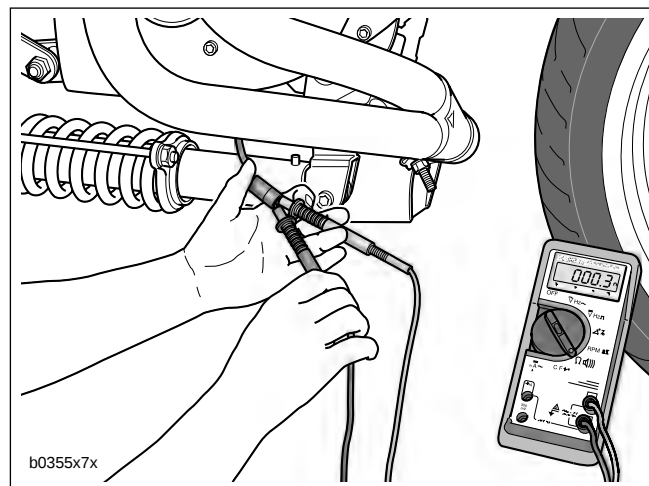

Figure 7-25. Check for Stator Resistance (Typical)
4. See Figure 7-25. Remove ground lead. Insert lead into the remaining stator socket.